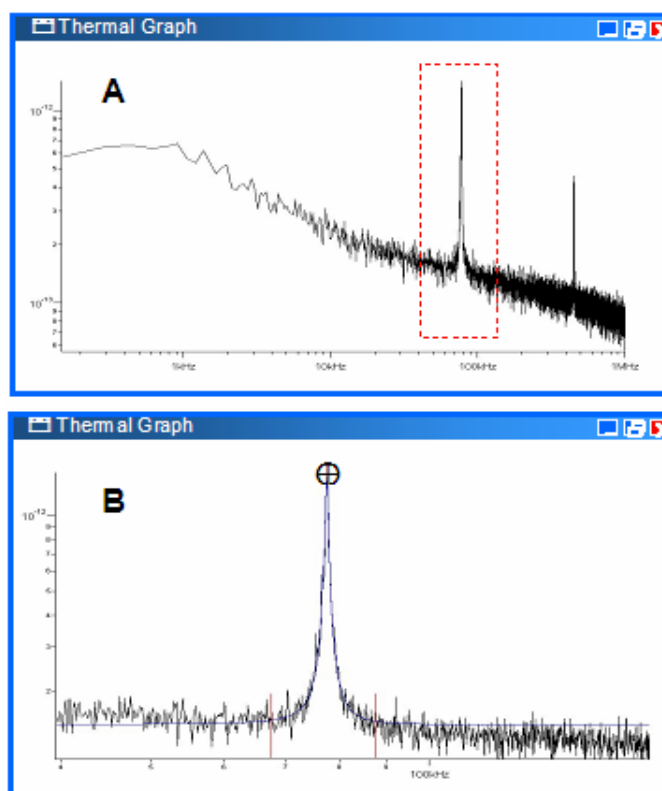
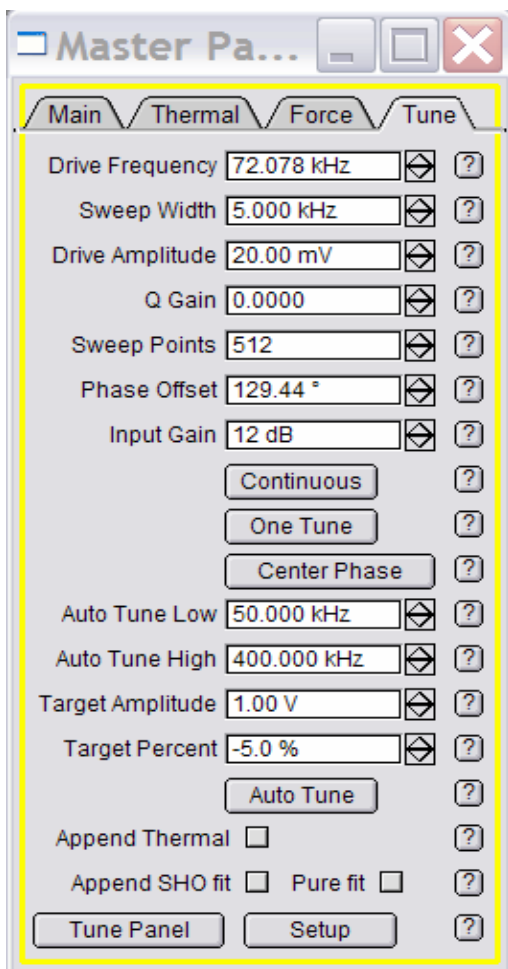
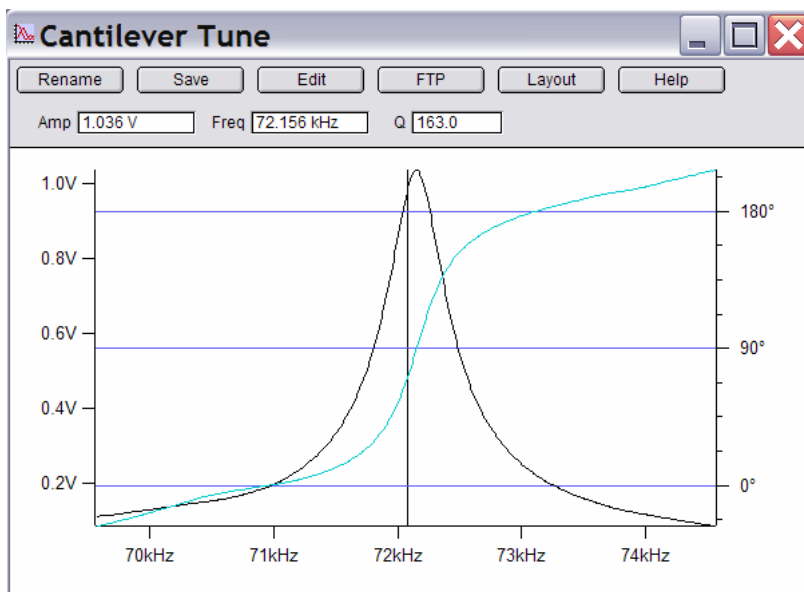

Figure 13: Frequency vs. amplitude plot from a thermal tune (taken in air). A) full-scale spectrum. B) zoomed and fitted (blue line).
Figure 15: Tune tab
Figure 16: Cantilever Tune results. Teal line is the Phase.
- ✓Click the '**Do Thermal**' button at bottom of panel. This detects the natural resonant frequency of the cantilever by doing an iterative series of frequency sweeps and averaging them. A real-time amplitude vs. frequency (power spectrum) plot comes up like the one seen in Figure 13 (see Figure 16 for thermal power spectrum in fluid). Let it go through many cycles (the more you collect, the more it filters out noise).
✓ Open the *Tune* tab of the Master Panel (Figure 15). Make sure the "Target Percentage" is -5.0 %. The default Auto Tune high and low values are 50 kHz to 400 kHz, respectively. Most drive frequencies for AC mode cantilevers fall within this frequency range (in air). Click the 'Auto Tune' button. You can hear the shaker piezo sweep, and an auto tune plot similar to the one in Figure 16 comes up. The software automatically picks a drive frequency on the left side of the resonant peak at -5% of peak maximum at the (*minimum*) Drive amplitude needed to make a 1.0 V amplitude in the S&D meter. *The target amplitude & percentage can also be defined by the user.* The drive frequency value will automatically be updated in the *Tune* and *Main* tab of the Master Panel, and the Q of the cantilever is determined.
- The teal colored curve is the Phase, which is set to 90° at the resonant frequency value. FYI, the Amp, Freq and Q values at the top of the panel are the values found for the largest peak within the Sweep width (in Figure 16's case, 5 kHz).
previous Section VI. Examples can be seen in Figure 13 [air] or 14 [fluid]; Bring up the cursors with Ctrl + I , and select the frequency of the fundamental peak; As long as this number fits within the Auto Tune high and low values; click the 'Auto Tune', and the software will determine the Drive Frequency. If not, adjust the Auto Tune high and low values accordingly.